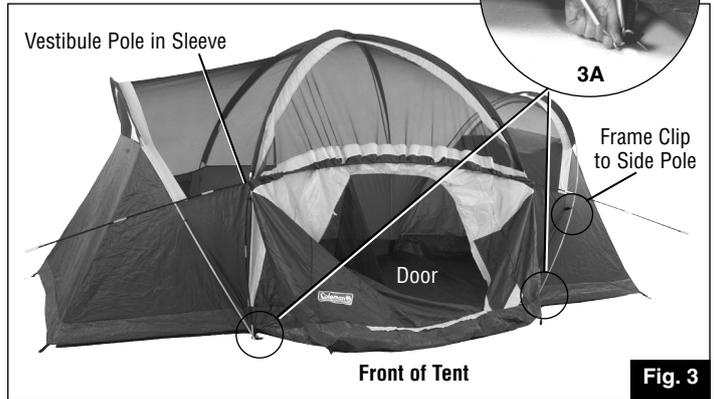

Fig. 3
8. Insert one end of each grey Side Pole (located over sides of tent) into pins in front corners of tent. (Fig. 3 & 3A)
9. Go to opposite end of each Side Pole and gradually apply pressure to the pole forming an arch. Insert the pin into the pole end at the back of the tent. (Fig. 3 & 3A)
10. Attach frame clips along edges of tent to grey Side Poles (Fig. 3)
11. Insert remaining black, shock-corded, Vestibule Pole through sleeve above front door of tent. (Fig. 3)